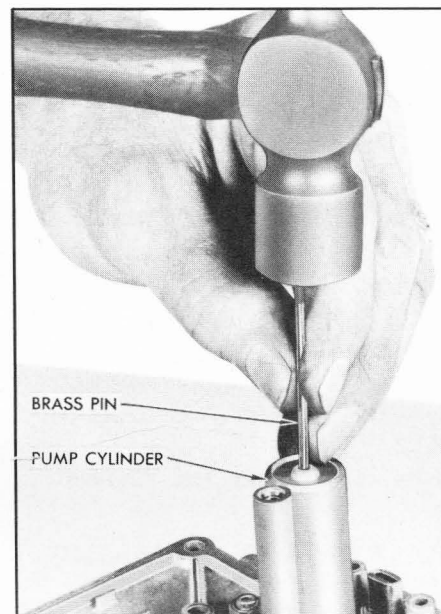

Figure 3-48—Removing Pump Intake Ball and Retainer
14. Insert soft brass pin through hole in bottom of pump cylinder and tap out the pump intake ball and retainer. See figure 3-48.